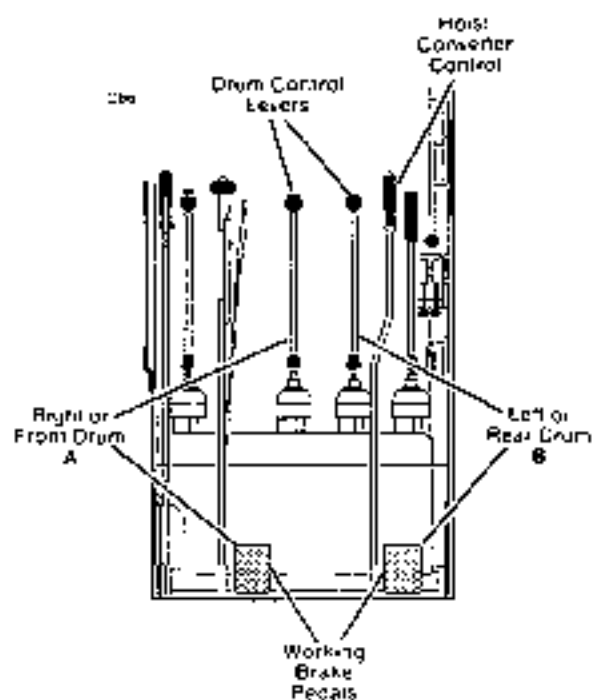

Figure 11 Drum Controls
HOIST CONVERTER SELECTOR IN AIR POSITION (see Figure 11)
Dragline (Figure 11)
9. With the bucket in the digging area, pull lever (A, Figure 11) back and release both brakes (A and B) to drag the bucket in.